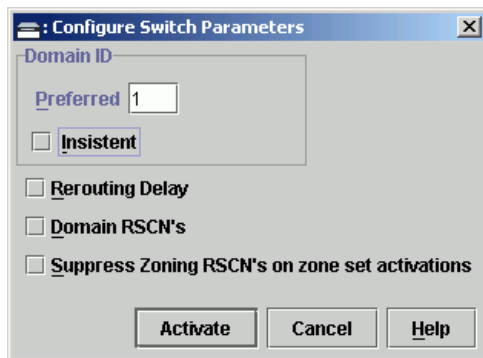

Figure 3-41 Configure Switch Parameters Dialog Box
- At the *Hardware View* (Figure 3-10 on page 3-20) for the first switch reporting the problem, click *Configure* and select *Operating Parameters* and *Switch Parameters*. The *Configure Switch Parameters* dialog box displays (Figure 3-41).